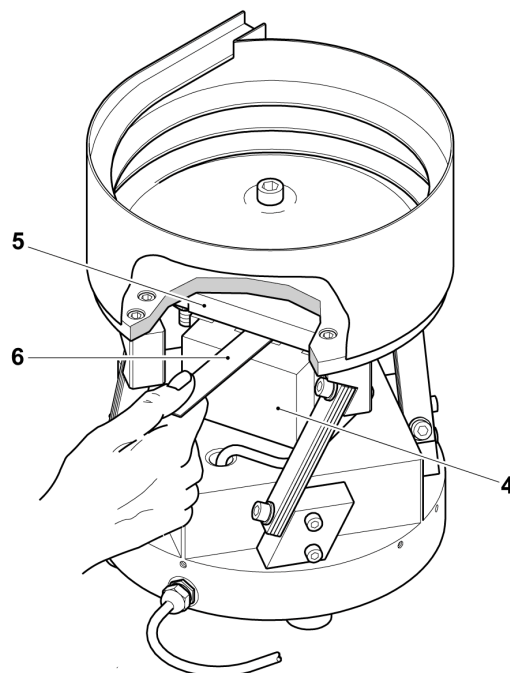

Figure 22
3. Use a feeler gauge (6) to set the air gap between the magnetic coil (4) and the anchor bolt (5) to between: (see Figure 22)